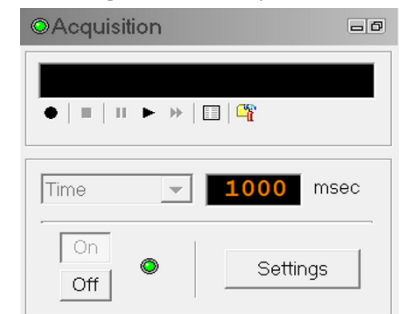

Figure 4-1.2 Acquisition Panel
4. In the **Acquisition** panel (Figure 4-1.2) select the time sampling mode. Switch on the sampling (click the **ON** button).
6. Once the caliper arms are open (Caliper Operating progress bar disappeared) turn the sampling **Off**, select the final sampling mode (depth or time) from the **Acquisition** panel (Figure 4-1.2). Click on **Settings** and specify the corresponding sampling rate. Switch on the sampling again (click the **ON** button).
7. Press the **Record** button in the **Acquisition** panel (Figure 4-1.2) specify a file name and start the logging.